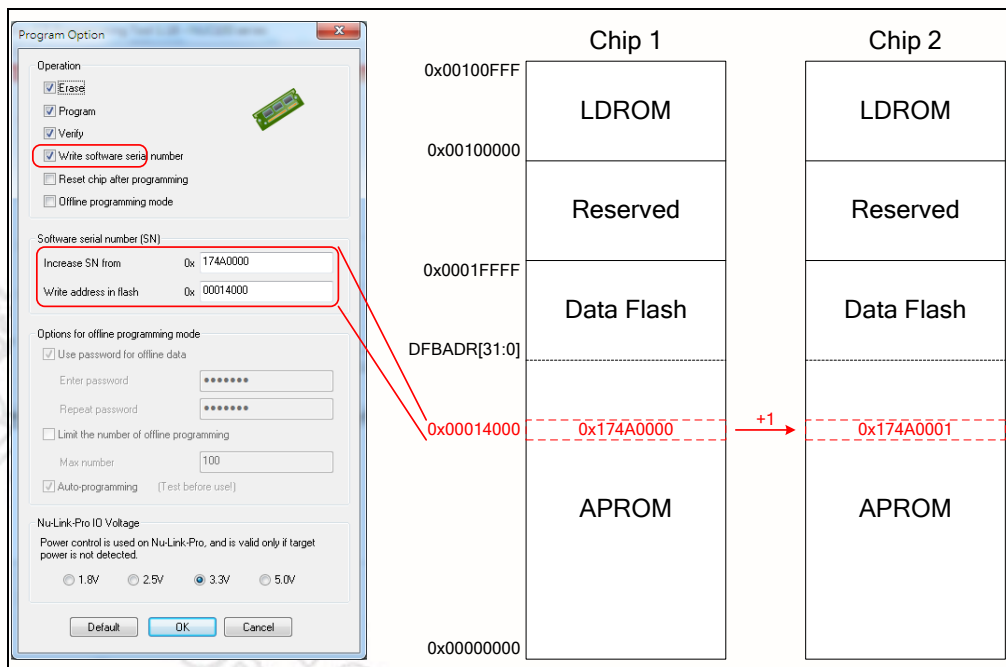

Figure 3-7 Software Serial Number (SN) Settings
The Software Serial Number (SN) function provided by the ICP Tool enables users to specify the value in the “**Increase SN from**” and “**Write address in flash**” fields for the target chip during online/offline programming. Take the NUC140VE3CN chip for example, the user can specify a set of “Increased Serial Number (SN)” and “Write Address” to any of APROM, LDROM, and Data Flash, and the written Serial Number (SN) will be automatically incremented (as shown in Figure 3-7).